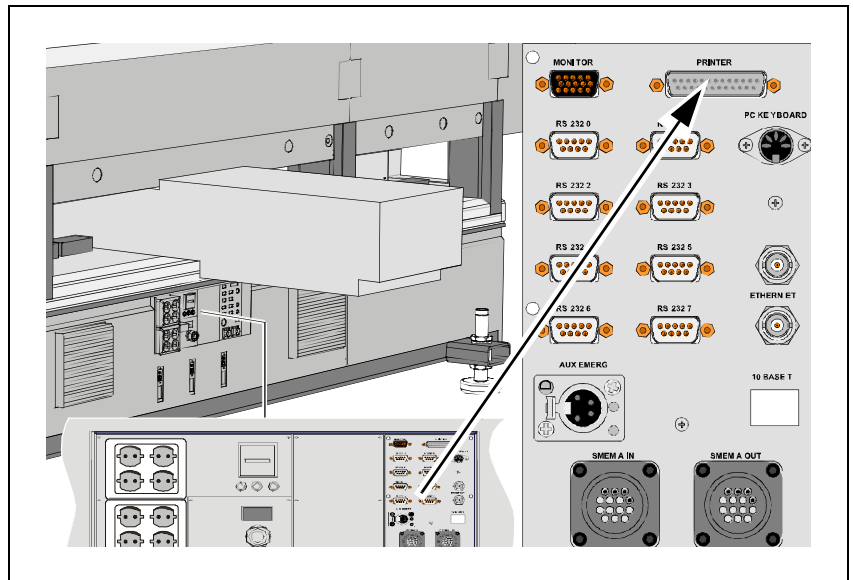

Figure 14-2. Mains input panel.
6. Connect the other end of the cable to the printer connector on the MY machine backside (see Figure 14-2). Fasten the cable securely.